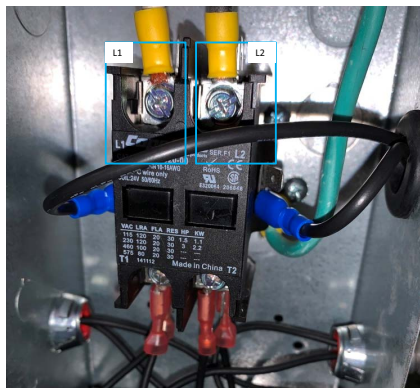

Figure 1.
2. Power must connect to terminals L1 and L2 on the contactor in the remote unit. See Figure 1 for L1 and L2 locations.